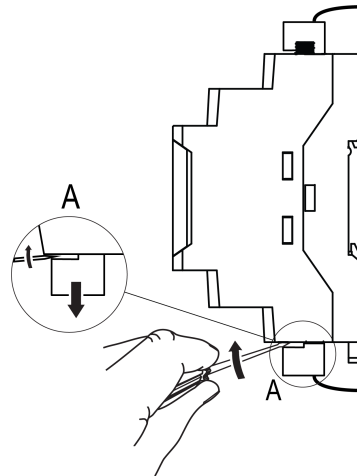

Fig. 6.2 Quick replacement
3. Using a screwdriver or a similar tool, unplug the terminal blocks with existing wiring connected (see Fig. 6.2).